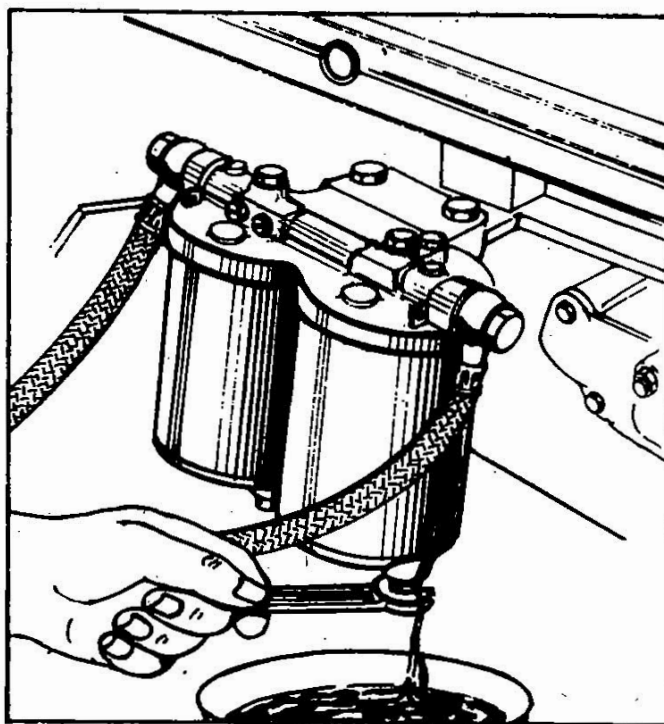

Fig.3.5
a) Drain the fuel filter bowls to remove the sediments and water which accumulate at the bottom of bowls (Fig.3-5). This would enhance the life of filter inserts considerably.